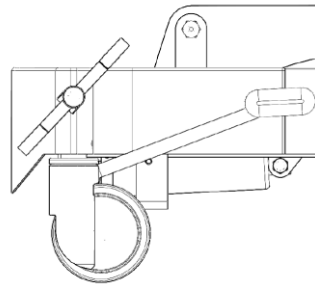

Figure 17
2. When you reach the desired position, make sure to block all the wheels (see Figure 17). This means all four wheels are blocked and cannot move.